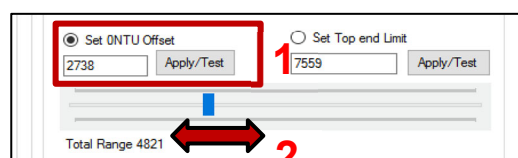

Figure 7.K: Scaling and calibrating 0NTU offset
3. Select the option "Set Top-end Limit" (Figure 7.L: #3).